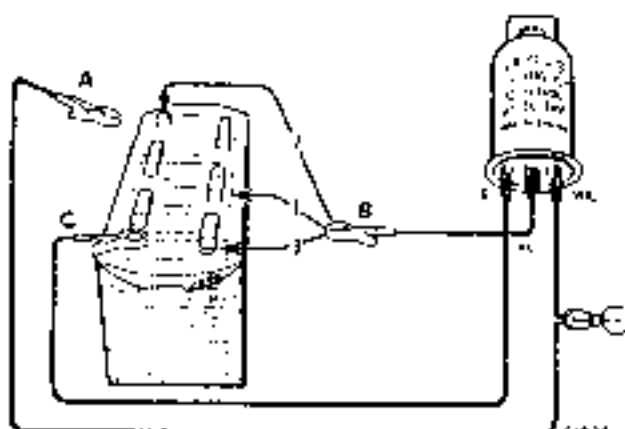

Fig. N.34
- Connect the circuit as shown in Fig. N 34, leaving battery clips 'A' and 'B' disconnected at this stage.